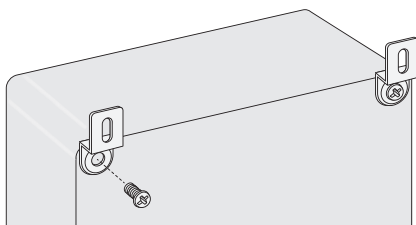

Figure 4 - Mounting the Enclosure
1. Attach the mounting brackets to the back of the enclosure with the four provided screws as shown in Figure 4.